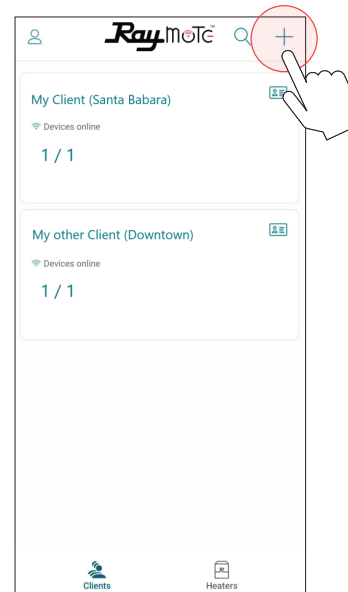

Figure 118. Add a New Client
3. Now, press [New Client] button or top-right [+] icon. See Figure 118.